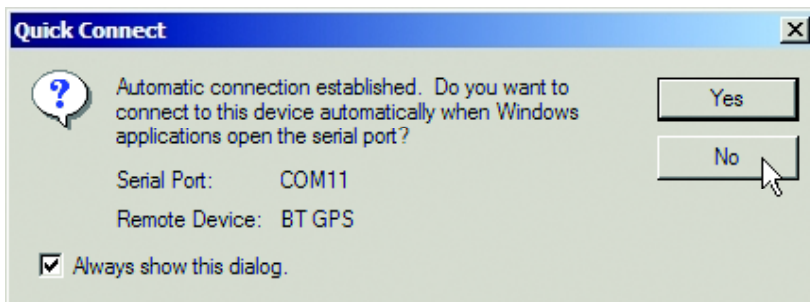

Figure 10 : The Quick Connect dialogbox reports the number of virtual COM port that ZX-BLUETOOTH (in BT GPS name) reserved. From the example is COM11.
9. After the connection is complete, the Quick Connect dialogbox will appear and report the number of virtual COM ports (serial port) that was generated for ZX-BLUETOOTH (in BT GPS name) following the figure 10. This dialogbox ask about connecting to this device automatically when Windows applications open the serial port. Click on the **No** button to deselect the automatic connection.